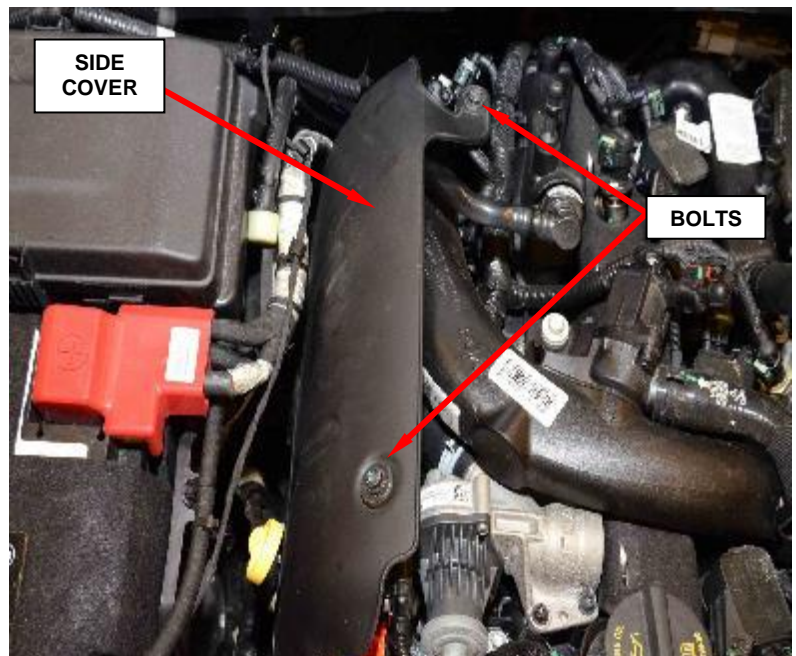

Figure 2 – Engine Side Cover
4. Remove the two side engine cover bolts and remove the engine top cover from the dowel (Figure 2).